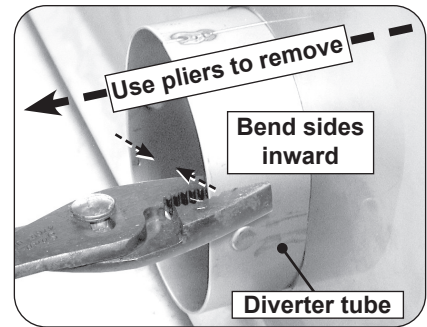
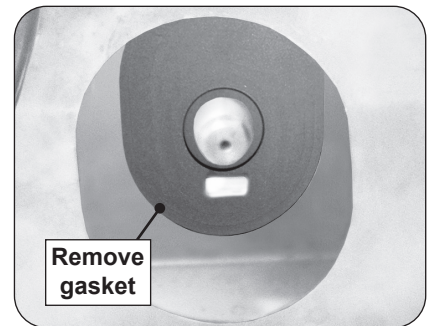

Fig. 2-1 Remove diverter tube
Fig. 2-2 Remove silicone gasket
6. **The grill is equipped with a flame arrester kit for each main burner. This kit is only functional with the standard main burner, and must be removed for proper infrared burner operation.** Use pliers to remove the diverter tube by bending in each side and pulling it outwards (see Fig. 2-1), then reach in and remove the silicone gasket (see Fig. 2-2).